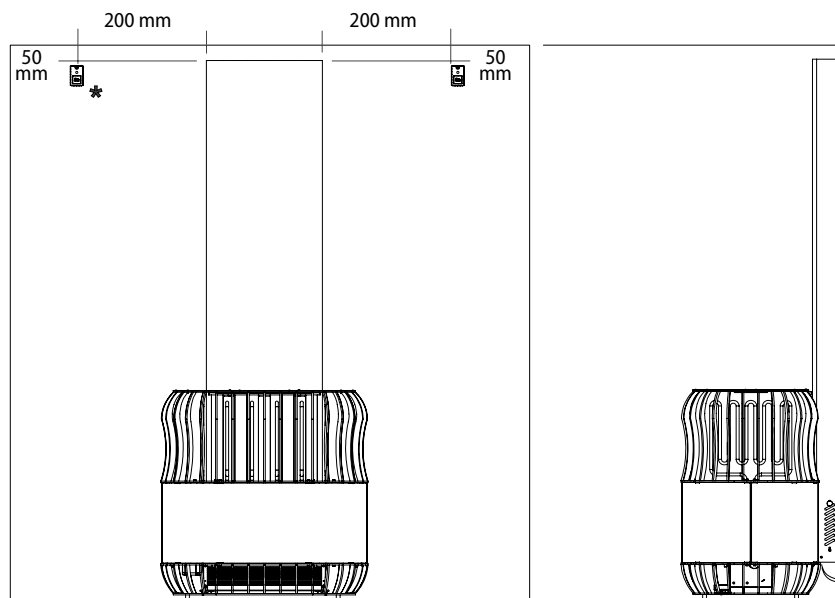

Figure 1
**NB!** The maximum temperature at the height of the temperature sensor of the controller (200 mm from the heater and 50 mm from the ceiling) is 100 °C (Figure 1).